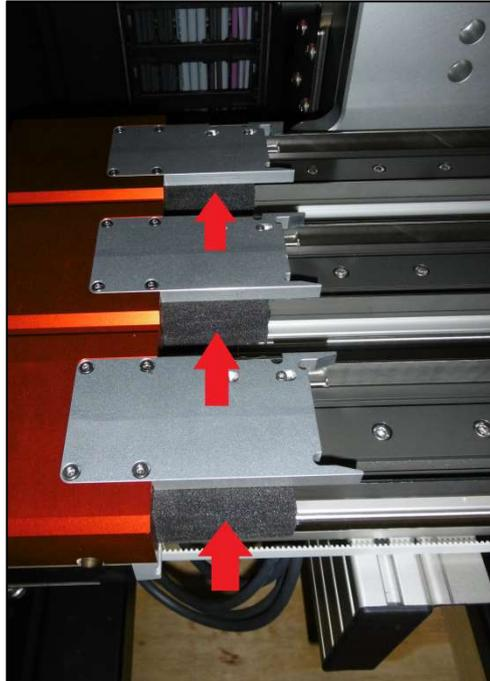

Figure 8: Backup Indexer
- The plasticization of the indexers (Figure 8) shall be removed by hand.